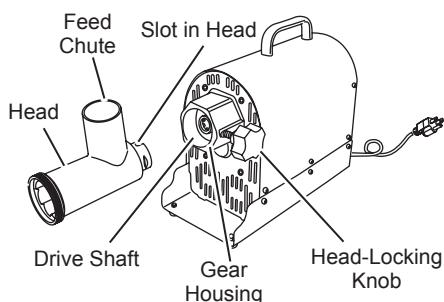

FIGURE 5
1. Make sure Meat Grinder is unplugged. Insert the Head into the Gear Housing with the feed chute of the Head facing straight up. You will need to line up the slot in the Head with the Key inside the Gear Housing. Be sure the Head is seated fully into the Gear Housing (**FIGURE 5**).